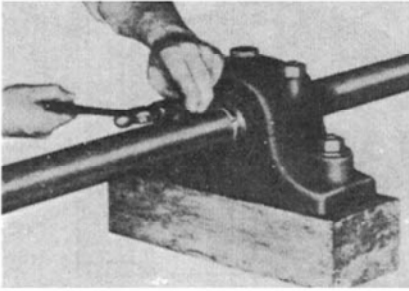
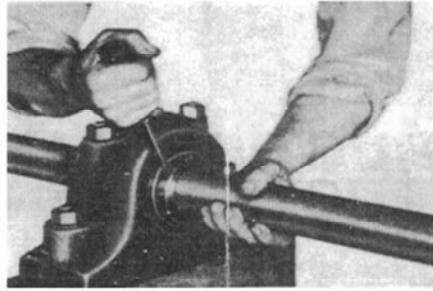

Figure 1
Figure 2
7. To keep adapter 51 from turning on shaft tap on large end (opposite adapter nut—see figure 1). If large end of adapter is inaccessible, insert point of screwdriver between housing and adapter nut and twist screwdriver—see figure 2.